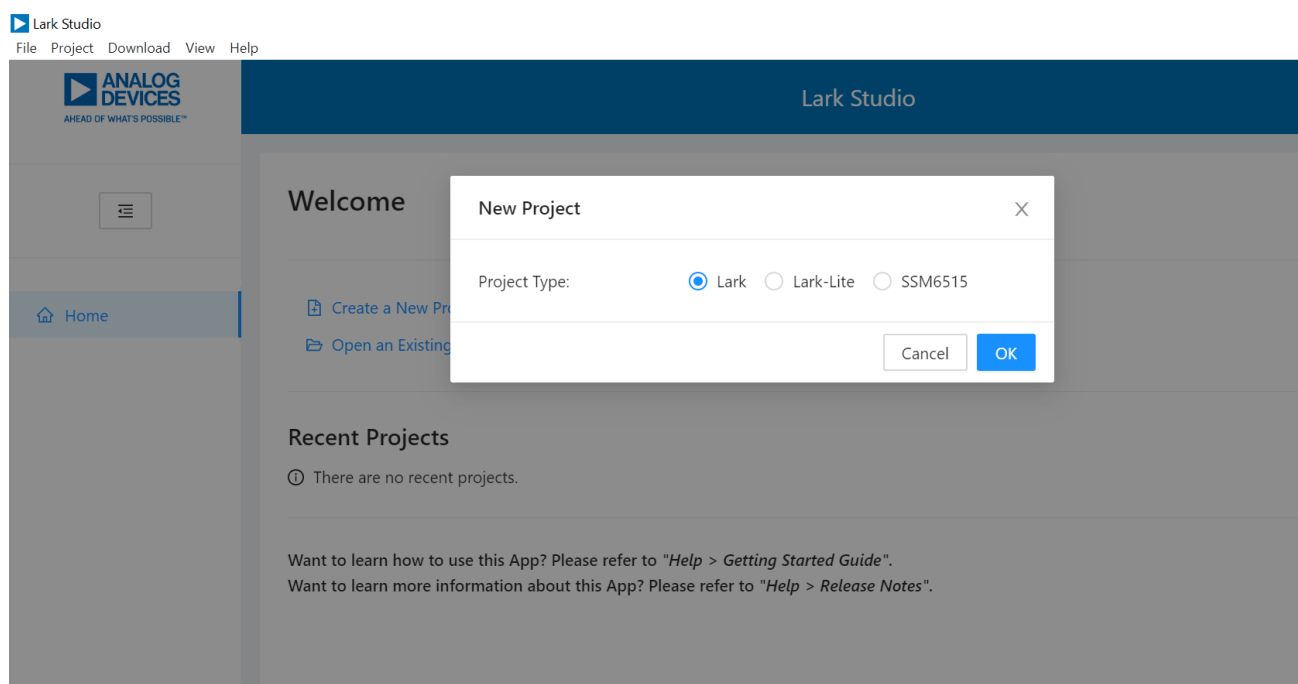

Figure 3. Create a New Project
3. Click **New Project** from the **Project** menu, or click **Create a New Project** in the **Welcome** section to create a new project, as shown in Figure 3. The **New Project** window shows the **Project Type** options.